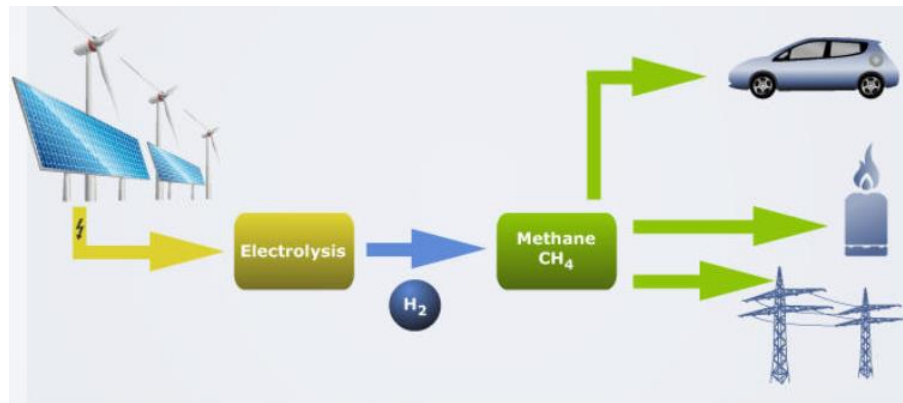

Figure 7. Methane Energy Storage
- **Production:** Methane can be produced through **power-to-gas** (P2G) technology, where excess electricity is used to produce hydrogen via electrolysis (figure 7), which is then converted to methane via **methanation** (reacting hydrogen with CO₂).